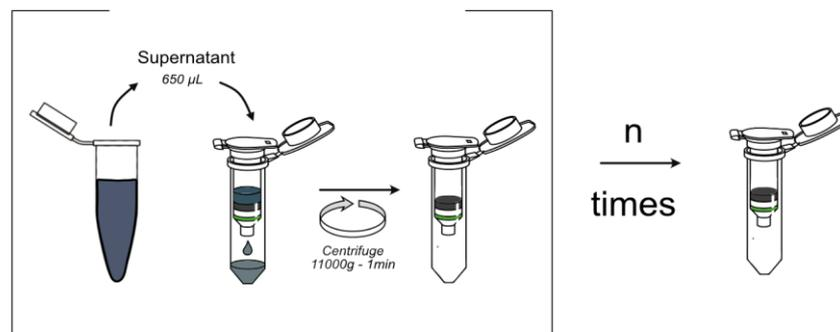

Figure 9. Fix DNA to the silica membrane.
6. Fix DNA to the silica membrane (Figure 9):
8. Dry silica membrane (Figure 9):